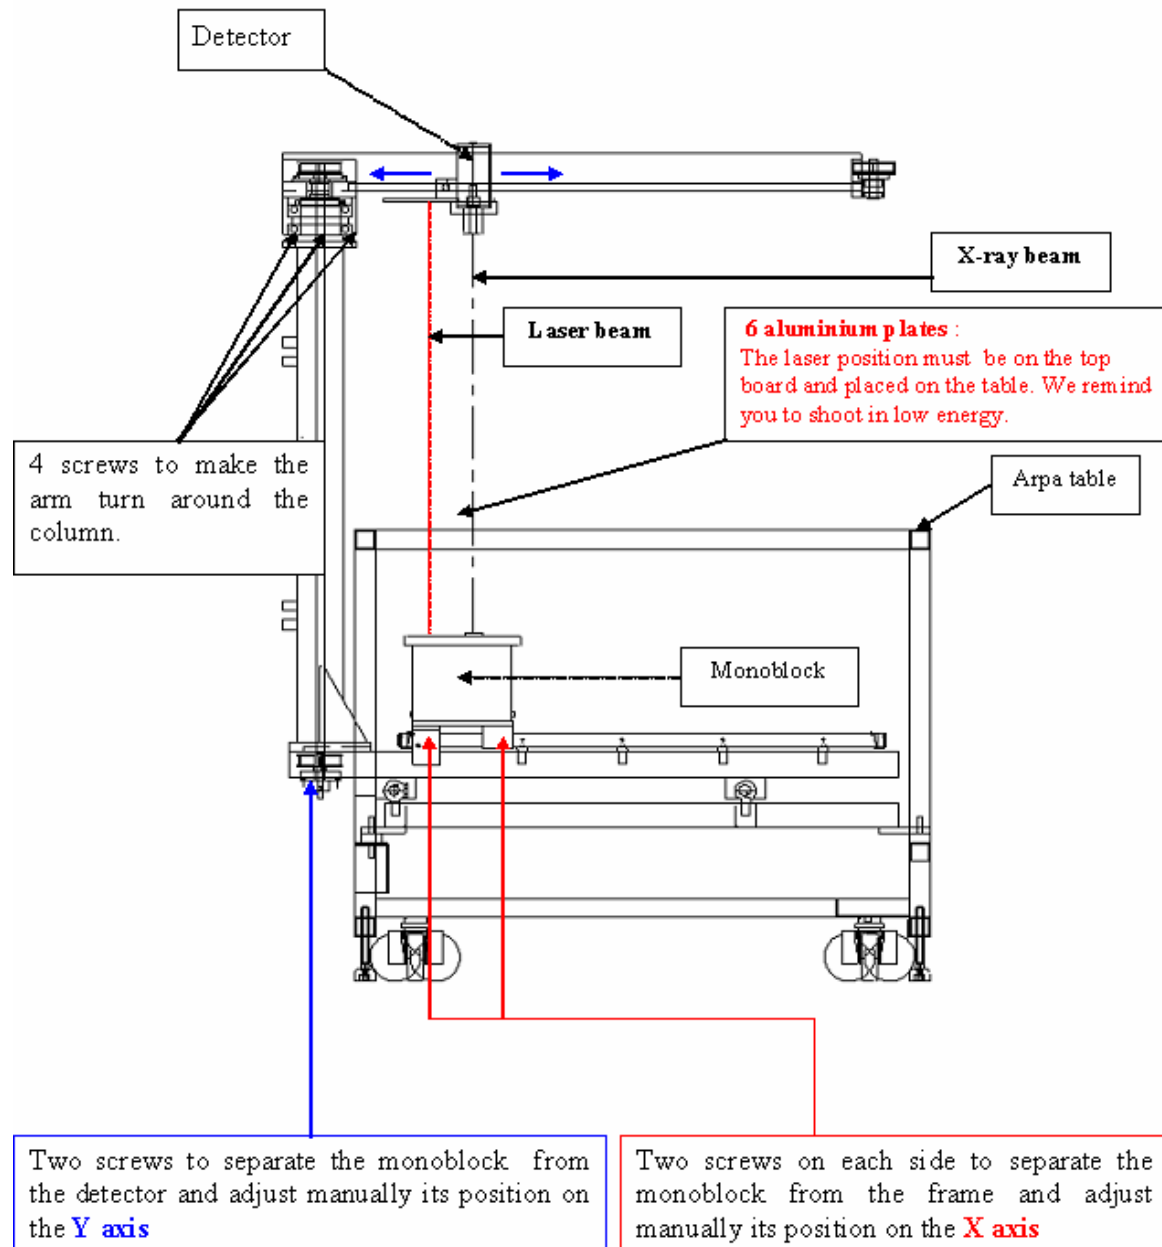

Figure IV-10 : Alignment
3. Unscrew the four screws at the top of the column so as to be able to move the angle of the arm (→ Figure IV-10, you'll be able to reach these screws by removing the panel at the bottom side of the arm).
3. Unscrew the two screws at the bottom of the column to move separately the detector and the monoblock. (→ Figure IV-10).